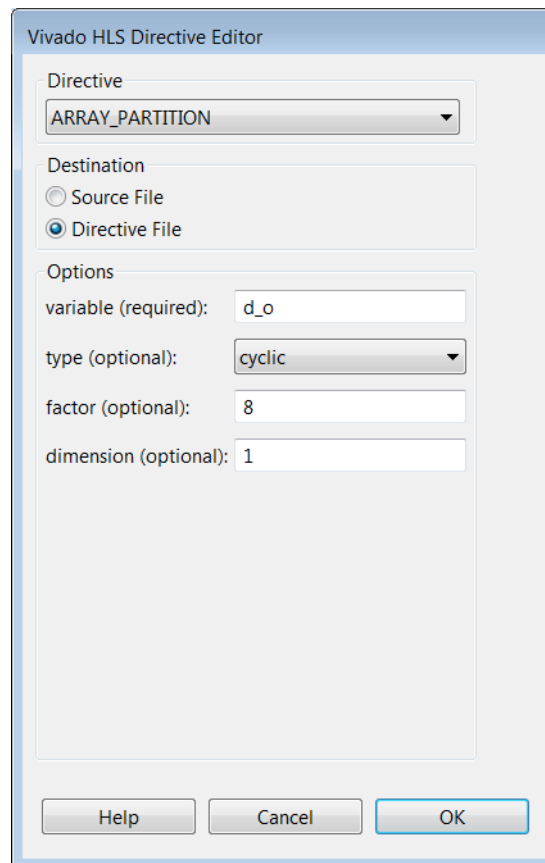

Figure 4-32: Directives Editor for Cyclic Partitioning
- d. With the Directives Editor dialog box filled in as shown in Figure 4-32, click **OK**.